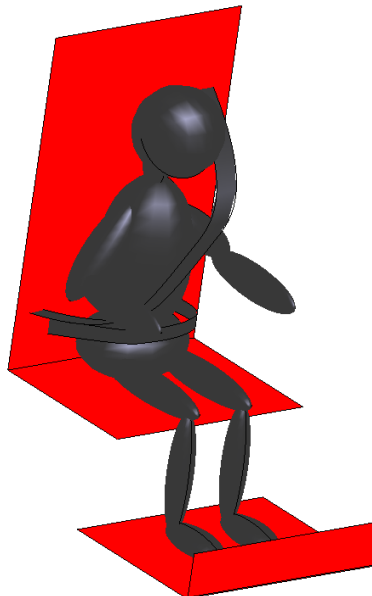

Figure 4. Seat surfaces selection
7. Click group command and select Seat surfaces (Figure 4). Press ESC after selection
2. From GiD Menu, select **Mesh->Structured->Surfaces->Assign** and select seat surfaces (Figure 4). Press ESC to finish.